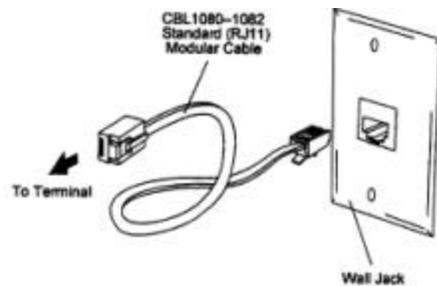

Figure 5: Telephone Wall Jack Connection
- Route and connect the other end of the telephone cable into your RJ11 modular telephone wall jack (refer to Figure 5).